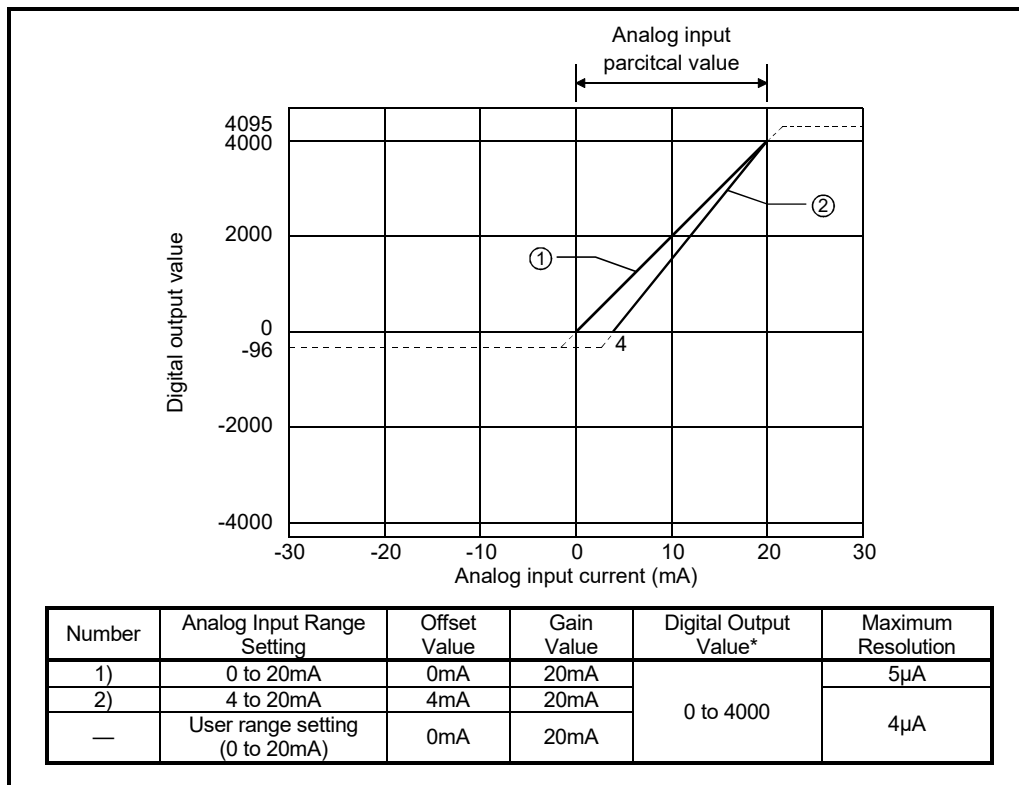

Fig. 3.2 Current Input Characteristic of the AJ65VBTCU-68ADIN
- (1) Do not input more than $\pm 30\text{mA}$. A breakdown may result due to heat increase.
- (2) If the analog input provided corresponds to the digital output value* beyond its range, the digital output value is fixed to the maximum or minimum.
- (3) Within the analog input and digital output scopes of each input range, the maximum resolution and accuracy are within the performance specification range. Outside those scopes, however, they may not fall within the performance specification range. (Avoid using the dotted line part in Fig. 3.2.)
- (4) Set the offset and gain values of the user range setting within the range satisfying the following conditions.